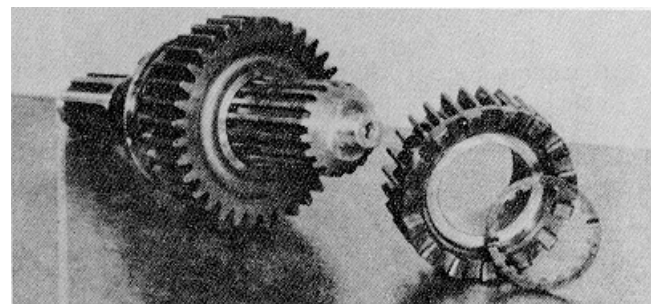

Figure 9B-66. Installing 4th Gear
4. Assemble a snap ring in the groove on the mainshaft under the bore of the 4th speed gear (overdrive), Figure 9B-67).